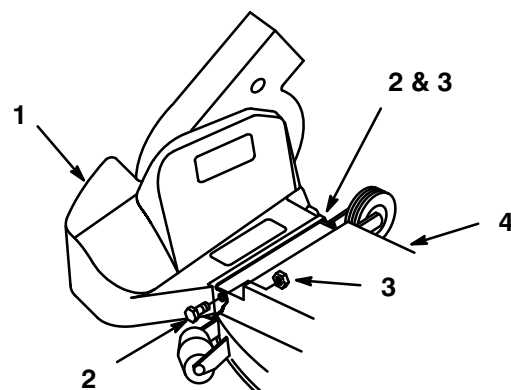

Figure 21
- Mount the blower belt cover to the deck belt cover using (2) 1/4 x 5/8" (16 mm) bolts and lock nuts (Fig. 21). Tighten the lock nuts slightly so that a light drag is felt on the belt cover when tilted upward. Cover must close freely when assembled.